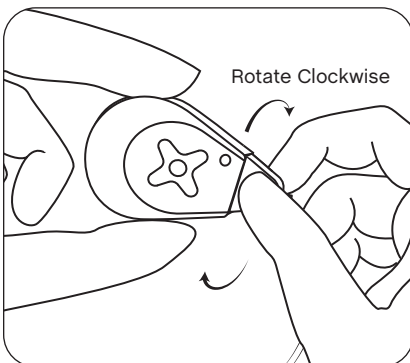

figure 8B: Gently twist to Lock
- B. **Gently** twist the wire jack clockwise until the applicator edge is flush with the wire jack (Figure 8B).